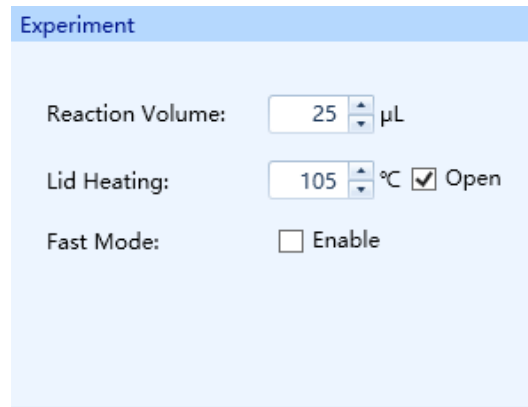

Figure D-5.2 Experiment Editing Area
2. **Experiment Editing Area:** user can edit the relevant parameters of the current experiment in the experiment editing area, as shown in figure D-5.2.